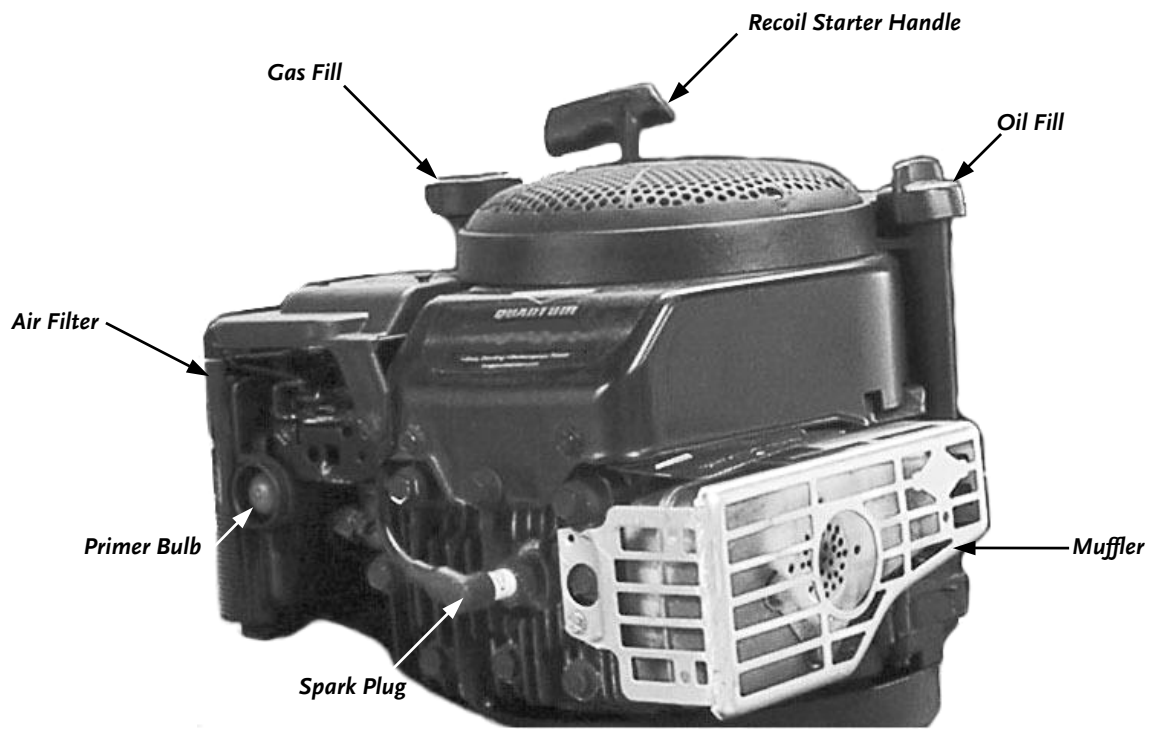

Figure 7
1. Place the machine on a level surface and initially add 16 oz. (1/2 quart) of SAE 30 oil, recommended by the Engine Manufacturer, and wait one minute for the oil to settle (**Figure 7** on page 16).
2. Check the Dipstick and continue adding a few ounces of oil at a time, rechecking the Dipstick until the oil reaches the fill mark. Be careful not to overfill (**Figure 7** on page 16).
3. Fill the Gas Tank with fresh, unleaded gas (with a minimum of 85 Octane), to approximately 1" to 1-1/2" below the bottom of the fill neck to allow for fuel expansion (**Figure 7** on page 16). Be careful not to overfill and reinstall the cap before starting the Engine. See your Engine Owner’s Manual for more information.
1. Check the Engine oil level every time you use the machine (see **Figure 7** on page 16).
2. Check the gasoline level (see **Figure 7** on page 16).
2. If your model has an Engine Primer, push the Primer Bulb IN (see **Figure 7** on page 16) and completely release it, lifting your finger and letting it pop back to its original position. Repeat three to four times.
3. Grasp the Recoil Starter Handle (**Figure 7** on page 16) and slowly pull until you feel resistance. Let the cord retract a little bit, then pull the cord rapidly to start the Engine. One or two pulls usually starts the DR WALK-BEHIND LEAF & LAWN VACUUM. It may be necessary to repeat the priming operation if the machine does not start within two pulls.